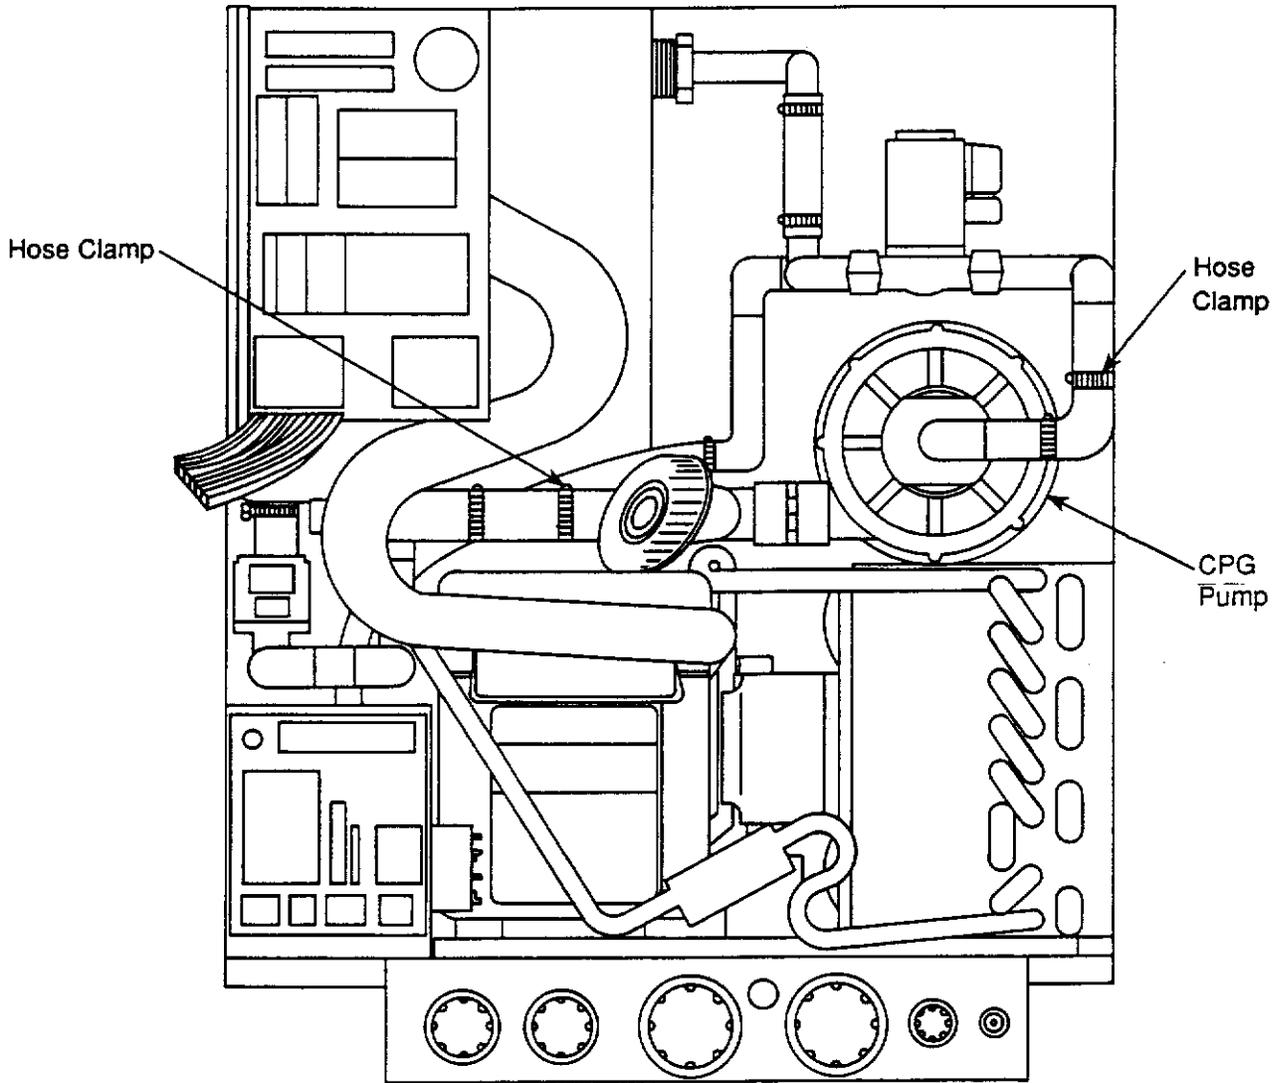

Figure 3-7. Rear View
3.19 Cardioplegia (CPG) Pump Assembly (See figure 3-7.)